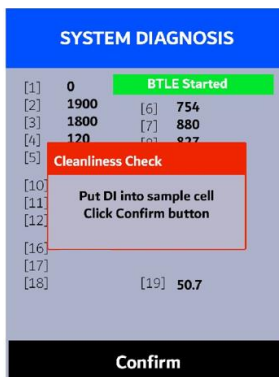

Figure 8.
5. Press **Cleanliness** (**<**). An instruction prompt appears to ask the user to put DI water into the sample cell (Figure 8).